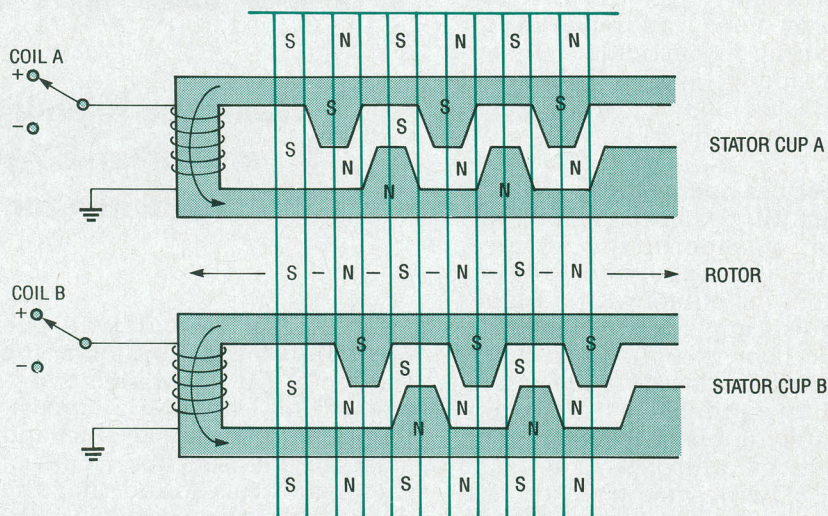
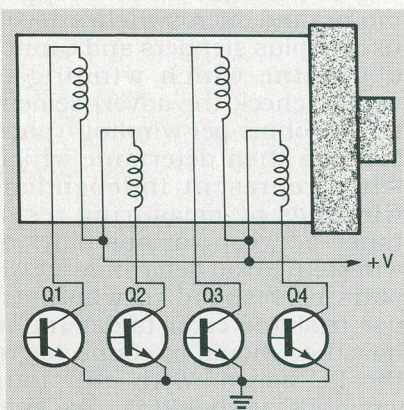

FIG. 2—MECHANICAL DIAGRAM showing the parts of a bipolar stepper motor.
FIG. 4—WIRING DIAGRAM for a unipolar stepper motor.
A stepper motor converts electrical pulses into rotational motion. As shown in Fig. 2, a typical stepper motor consists of a permanent-magnet (PM) motor built around two stator cups, with each cup surrounding a separate stator winding. The stator cups form pole pairs that are mechanically displaced by  $\frac{1}{2}$  a pole pitch. However, the stator-cup winding pairs displace each other by only  $\frac{1}{4}$  a pole pitch. When the stator windings are energized, the pole pairs are energized in alternation, thus creating North and South magnetic poles. The PM rotor is magnetized, so it aligns on the pole pairs provided by the stator cups.
Figure 4 shows the schematic of a unipolar stepper motor with associated drive transistors. Note that four coils are shown. Each winding consists of two coils wound on the same bobbin per stator half. (By contrast, Fig. 2 depicts a two-coil or "bipolar" stepper.)